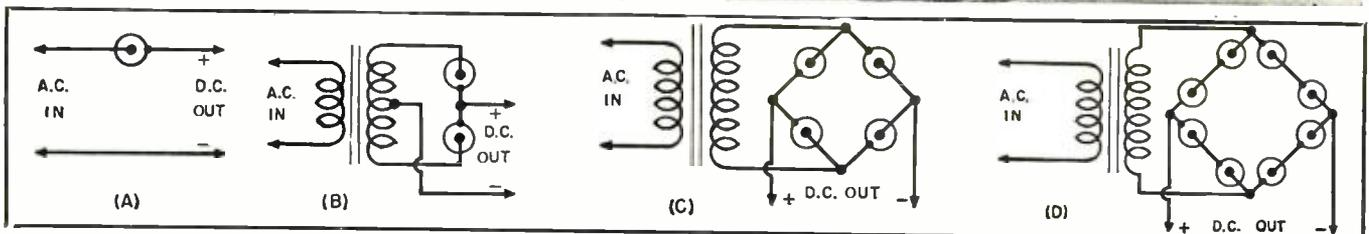

Fig. 1. Over-all view of CBS-Hytron's picture tube for color television. It is engineered so that it may be produced in quantity.
Fig. 1. Possible connections. (A) Half wave, not very useful. (B) Ordinary full wave center-tapped. (C) Bridge connection. (D) Higher-voltage bridge (cells added in multiples of four).